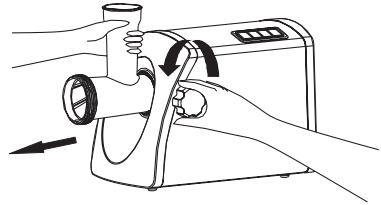

Figure 19.
5. Hold the grinder head with one hand and loosen the knob on the side of the unit with the other hand by turning it counter clockwise as shown in Figure 19.
6. Once the knob is loosened, pull the grinder head out as shown in Figure 19.